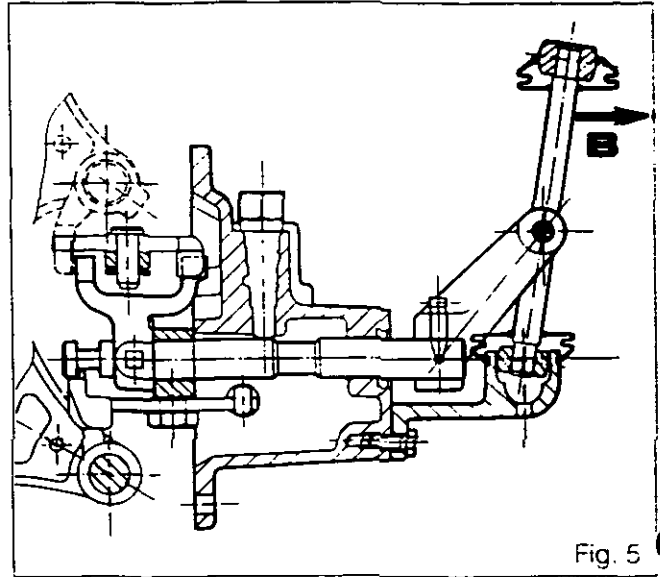

Fig. 5
8. Hold the control lever in the B position (Fig. 5).